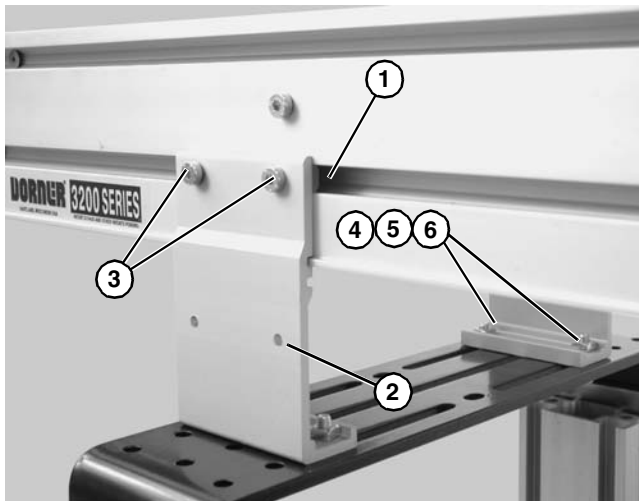

Figure 8
3. Insert T-bars (**Figure 7, item 5**) into conveyor side slots (**Figure 8, item 1**). Fasten brackets (**Figure 8, item 2**) to conveyor with mounting screws (**Figure 8, item 3**).
4. Fasten brackets to support stand with mounting screws (**Figure 8, item 4**), washers (**Figure 8, item 5**) and nuts (**Figure 8, item 6**).